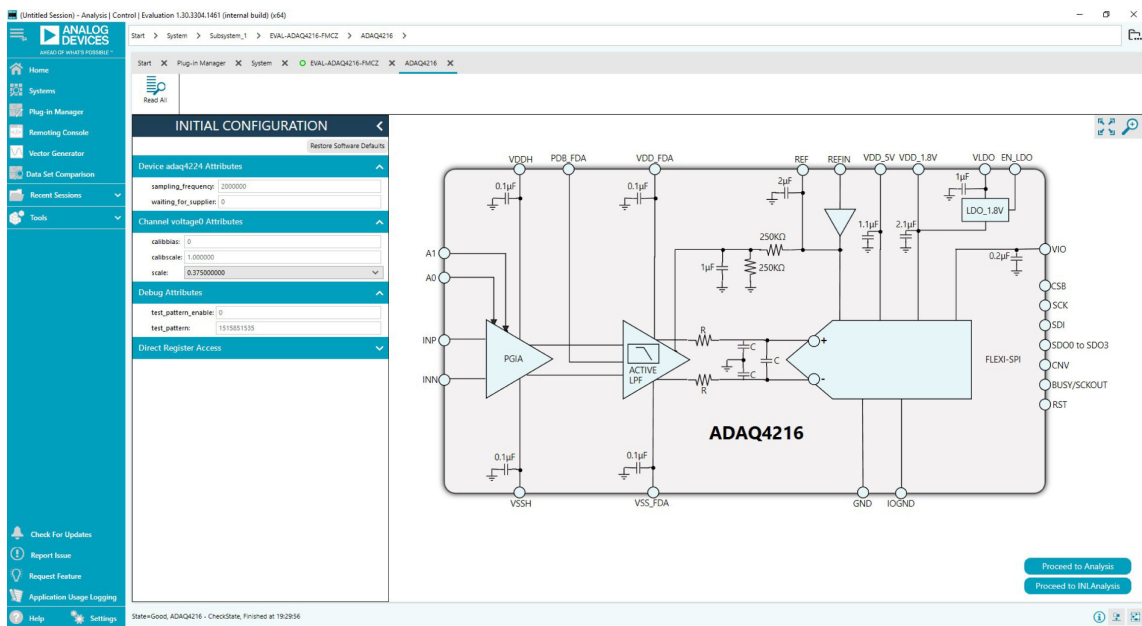

Figure 11. ADAQ4216 Chip View Window
5. Double-click **ADAQ4216** chip icon in the Board view tab to open the Chip view tab, as shown in Figure 11. The user can set the sampling frequency, calibration registers, and the gain on the Chip view tab. Click **Restore Software Defaults** button to change back to the default settings.